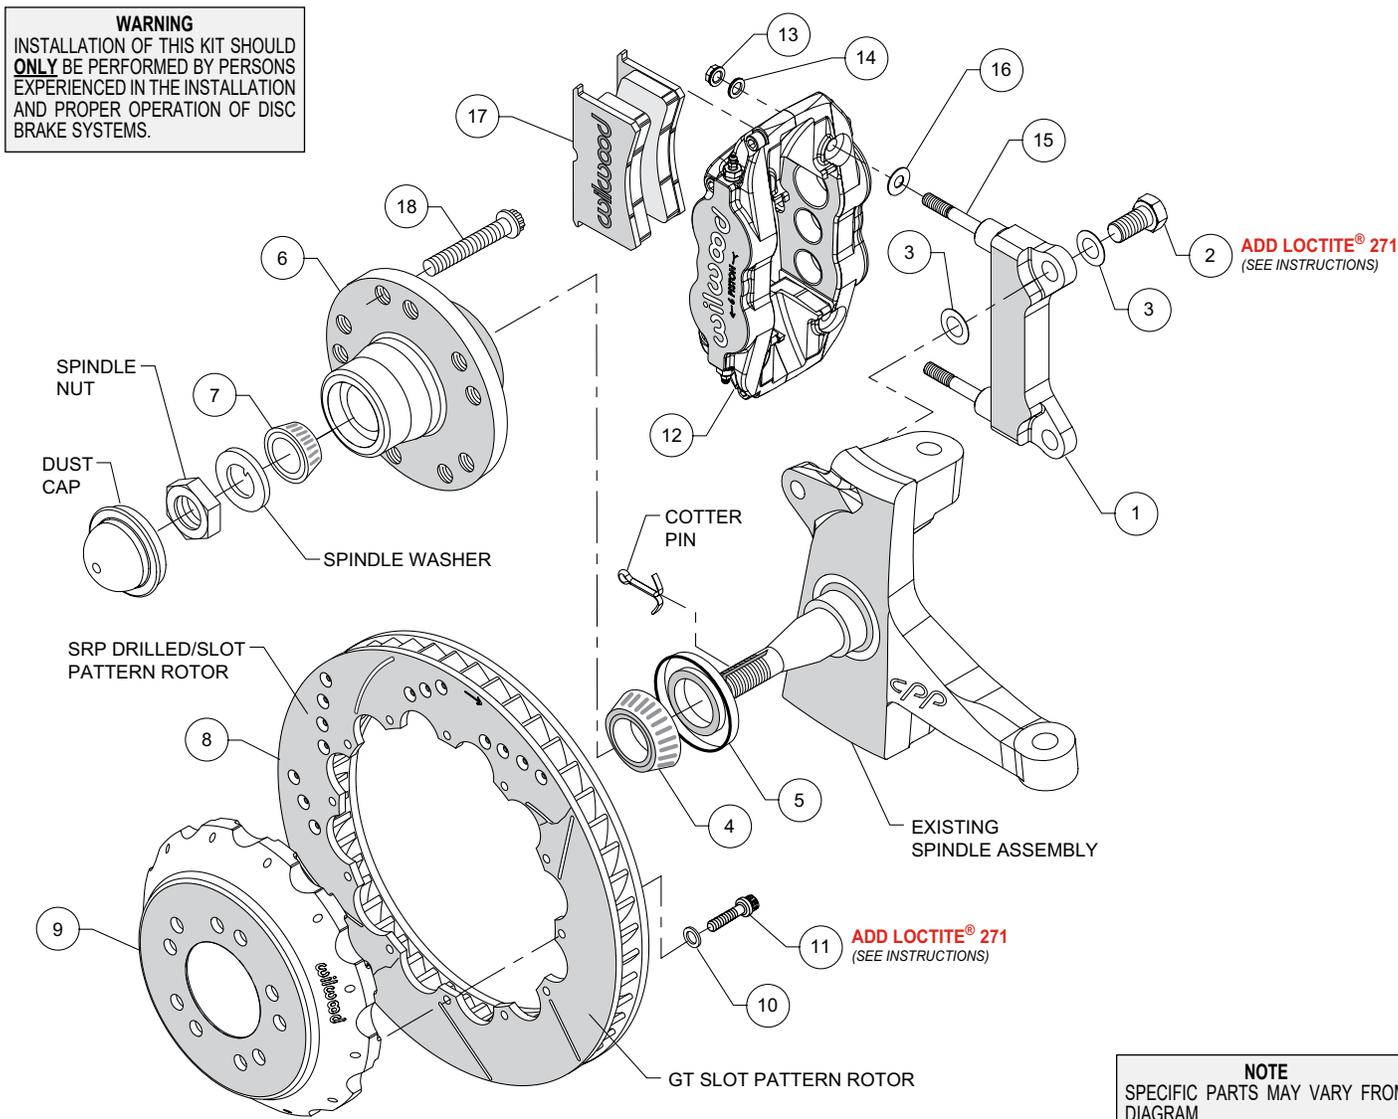
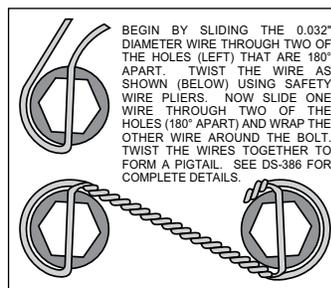

Figure 1. Typical Installation Configuration
Figure 3. Safety Wire Diagram
NOTE: Numbers in parenthesis refer to the parts list and Figure 1 on the preceding pages.
- The caliper mount bracket (1) should initially be installed with clean, dry threads on the mounting bolts. Orient the bracket, as shown in Figure 1, and install using bolt (2) and washer (3). Initially place one .024" thick shim (3) on each bolt between the bracket and upright, Figure 1. Temporarily tighten the mounting bolts. **NOTE:** The bracket must fit squarely against the mount bosses on the upright. Inspect for interference from casting irregularities, machining ridges, burrs, etc. Later, after the caliper alignment has been checked, the mount bolts will be secured using red *Loctite*® 271.
- Install wheel studs (18) into the hub (6), Photo 1. Torque to 77 ft-lb. **NOTE:** There are two five lug patterns in the hub (5 x 4.75 and 5 x 5.00). Ensure the correct hub stud pattern is being used to fit the wheel application.
- Pack the large inner bearing cone (4) with high temperature disc brake bearing grease (available from your local auto parts store) and install into the backside of the hub (6), Photo 2.
- Install the grease seal (5) by pressing into the backside of the hub (6), flush with the end of the hub, Photo 3.
- Orient the rotor (8) and the hat (9) as shown in Figure 1 and Photo 4. Attach rotor to hat using bolts (11) and washers (10). Apply red *Loctite*® 271 to the bolt threads and torque to 155 **in-lb** using a criss-cross pattern. For an added measure of security, the bolts may be safety wired using standard 0.032 inch diameter stainless steel safety wire as shown in Figure 3. Refer to Wilwood's data sheet DS-386 (available at www.wilwood.com/Pdf/DataSheets/ds386.pdf) for complete safety wire installation instructions.
- Pack the small outer bearing cone (7) with high temperature disc brake bearing grease and install into hub (6). Slide the hub assembly onto the spindle. Secure using spindle washer and spindle nut, Photo 5. Adjust bearings per OEM specifications. Install a new cotter pin.
- Press the dust cap into the hub (6).
- Slide the hat/rotor assembly (8/9) onto the hub (6). **NOTE:** The hat must fit flush against the hub face or excessive rotor run out may result.
•**NOTE:** This kit contains distinct right and left hand calipers that must be mounted in a specific direction, as described below. Initially place one .035" thick shim (16) on each stud (15) as shown in Figure 1 and Photo 6. Mount the caliper (12) onto the bracket (1) using lock nuts (13) and washers (14), Figure 1. Ensure that the caliper is mounted so that the largest pistons are at the rotor exit end of the caliper, in relation to the direction of rotor rotation. Temporarily tighten the lock nuts and view the rotor through the top opening of the caliper. The rotor should be centered in the caliper, Photo 7. If not, adjust by adding or subtracting shims (3) between the bracket and the upright. Always use the same amount of shims on each of the two mounting bolts. Once the caliper alignment is correct, remove the bracket mounting bolts one at a time, apply red *Loctite*® 271 to the threads, and torque to 120 ft-lb.